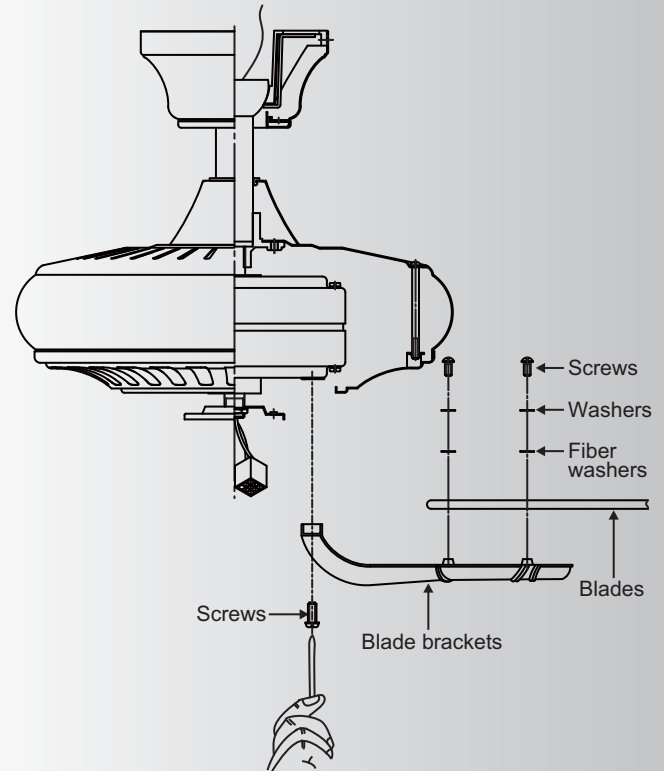

Fig. 16
Step 1. Attach a blade to a blade bracket using the screws, metal washers and fiber washers provided. (Fig. 16)
Step 2. Attach each blade assembly to the motor using the "Pre-Installed" mounting screws in the blade bracket. (Fig. 16)